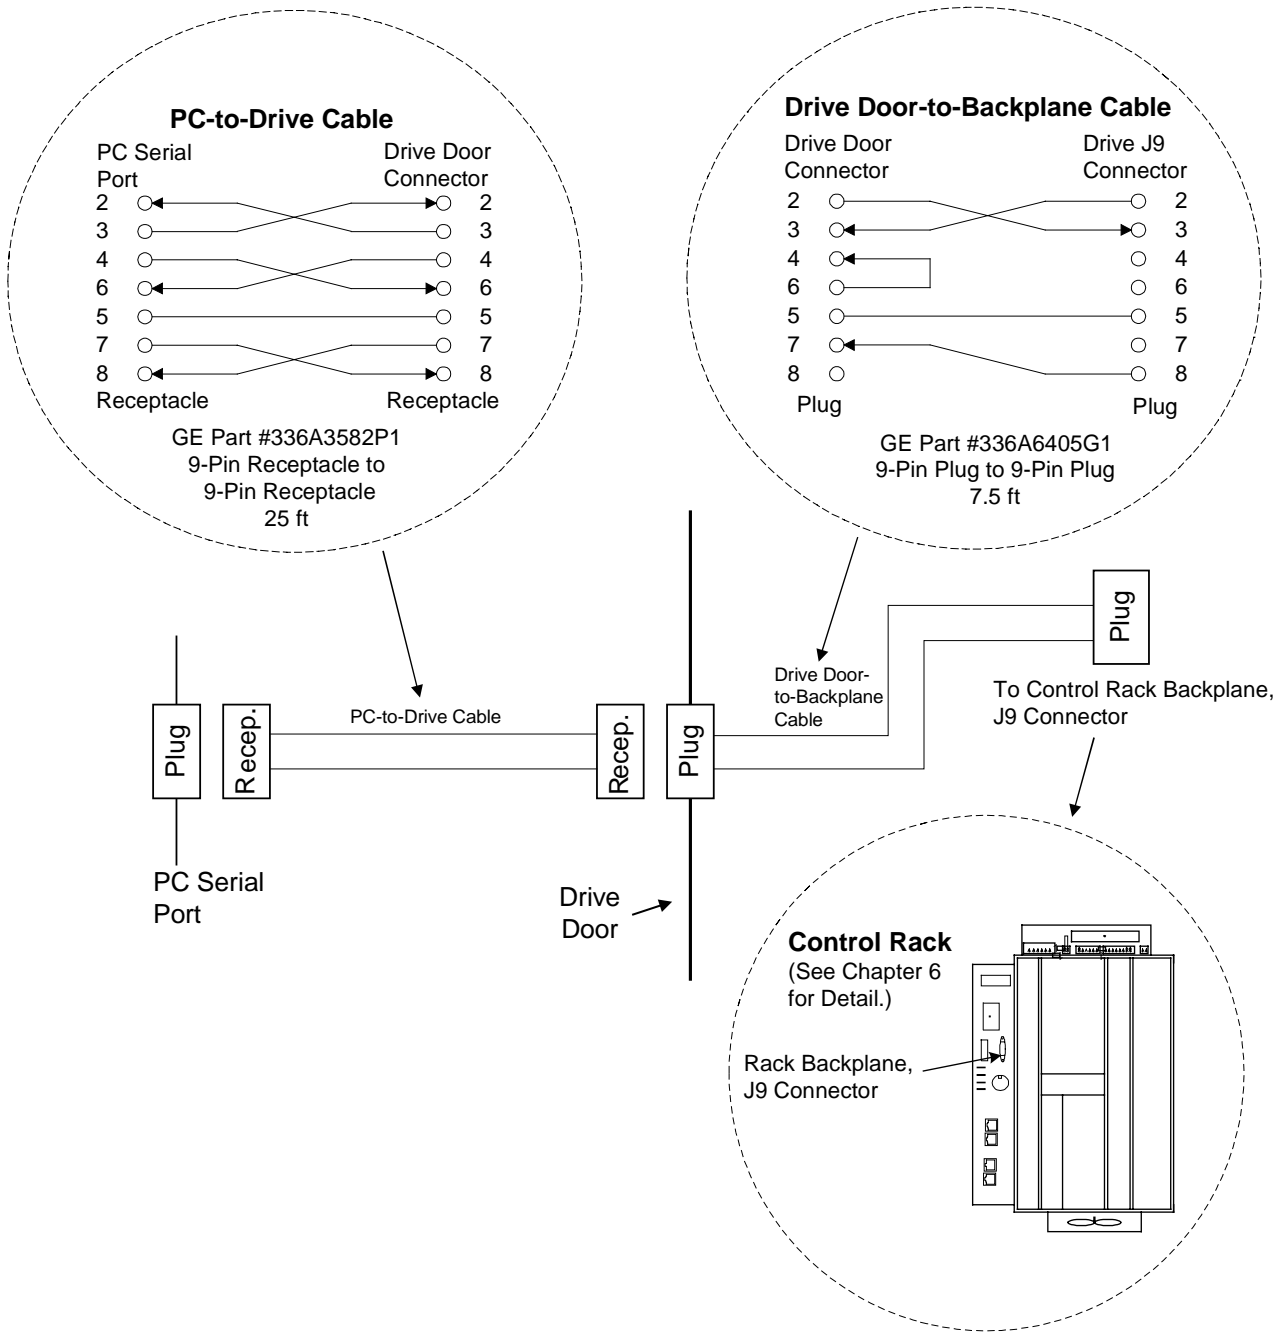

Figure 3-8. Cabling and Connections Between PC and Drive
- The PC connects to a plug located on the drive cabinet door below the Drive Diagnostic Interface (DDI, also called *keypad*). The other side of this plug connects a cable to connector J9 on the control rack backplane. (See Figure 3-8 for details, including recommended cable part number.)